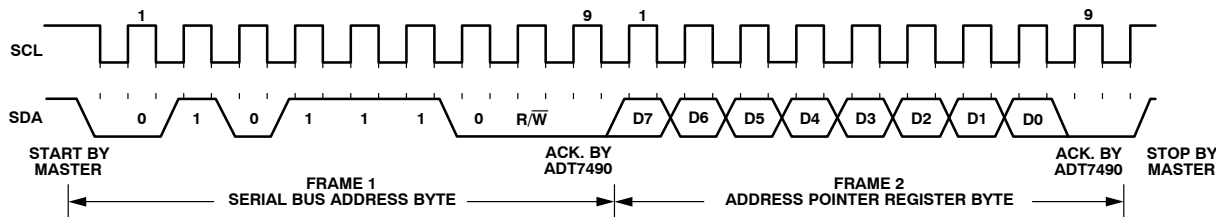
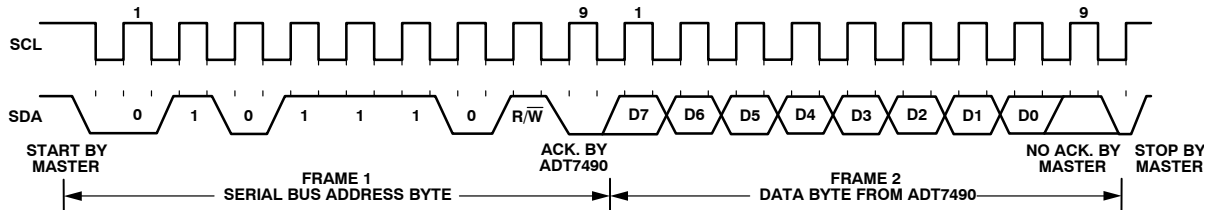

Figure 19. Writing to the Address Pointer Register Only
Figure 20. Reading Data from a Previously Selected Register
- If the ADT7490 address pointer register value is unknown or not the desired value, it must first be set to the correct value before data can be read from the desired data register. This is done by performing a write to the ADT7490 as before, but only the data byte containing the register address is sent because no data is written to the register. This is shown in Figure 19. A read operation is then performed consisting of the serial bus address, R/\overline{W} bit set to 1, followed by the data byte read from the data register. This is shown in Figure 20.
- If the address pointer register is known to be already at the desired address, data can be read from the corresponding data register without first writing to the address pointer register, as shown in Figure 20.